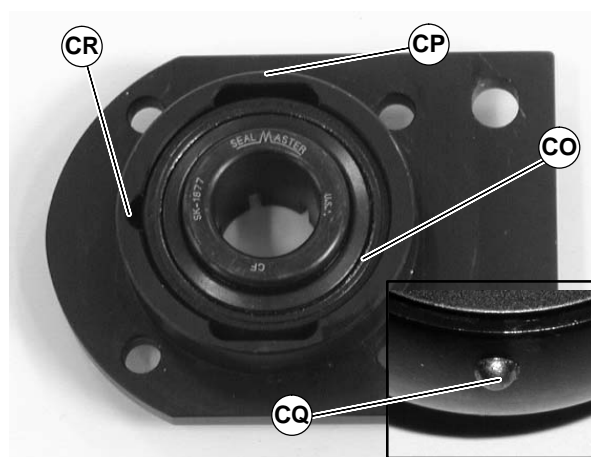

Figure 79
2. Insert bearing (CO of Figure 79) into housing slot (CP). Locate anti-rotation nub (CQ) to align with slot (CR), and twist bearing into housing.